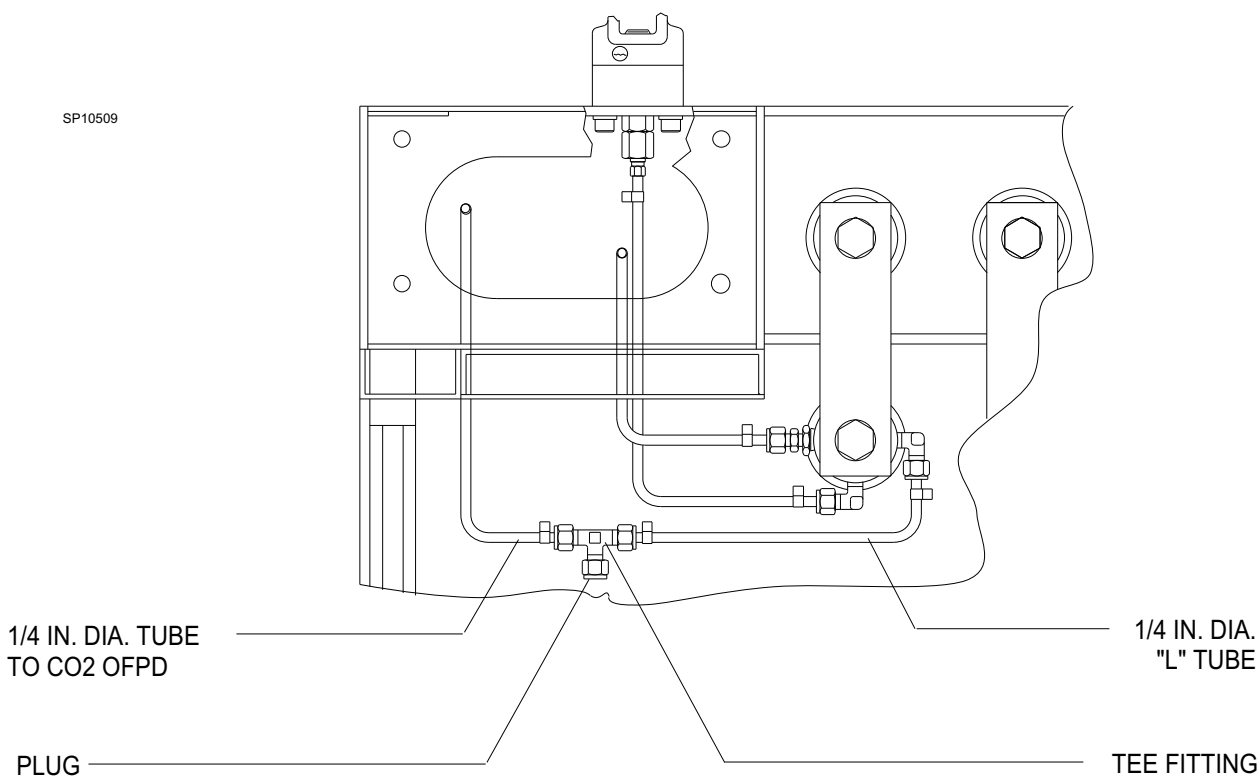

Figure 9: CO₂ CYLINDER REGULATOR L.P. CONNECTIONS
75. Connect the short end of a ¼ in. dia. "L" tube (P/N 4110837-015) to the CO₂ cylinder pressure regulator as shown in Figure 9. Install a CO₂ label (P/N 4109873 x2) on each end of this tube.
77. Connect the short end of a ¼ in.dia. pre-bent tube (P/N 4110279) to the remaining port on the tee fitting as shown in Figure 9. Install a CO₂ label (P/N 4109873 x2) on each end of this tube.